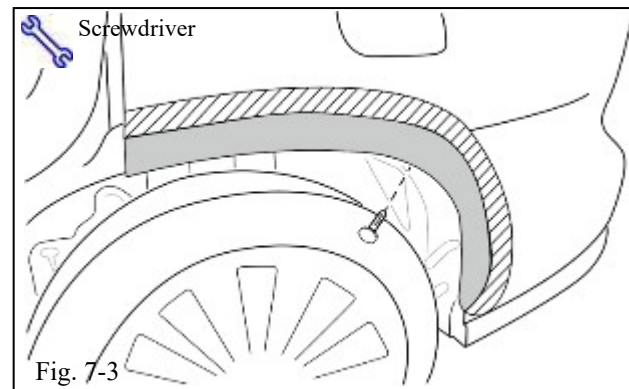

Fig. 7-3
- (c) Remove one (1) screw (Fig. 7-3).